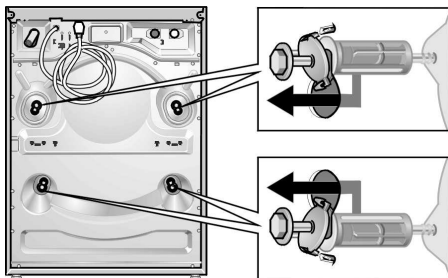

Figure 14
- Completely remove all 4 transport bolt assemblies (bolt, washer and bushings) by reaching through the open washing machine door and pulling the drum slightly forward to loosen, then pull them out from the back (see Figure 14).